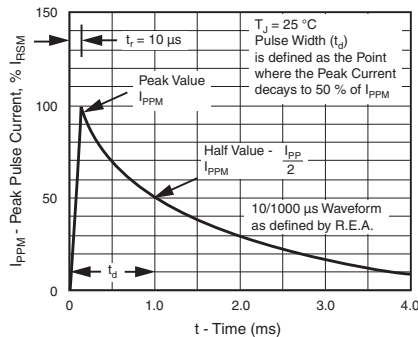
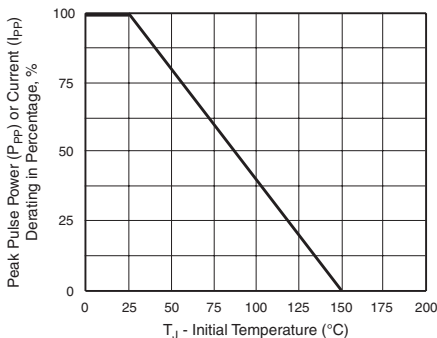

Figure 3. Pulse Waveform
Figure 2. Pulse Power or Current vs. Initial Junction Temperature
- (1) Pulse test: tp ≤ 50 ms
- (2) Surge current waveform per Fig. 3 and derate per Fig. 2
- (3) All terms and symbols are consistent with ANSI/IEEE C62.35